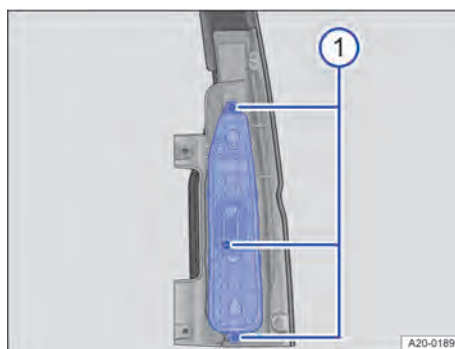

Fig. 178 On the tail lamp cluster: removing the bulb holder.
2. Undo securing screws with the screwdriver → Fig. 178 . Insert a suitable interchangeable blade if necessary.
3. Remove the bulb holder → Fig. 178.
1. Carefully insert the bulb holder into the tail lamp cluster → Fig. 178.
2. Screw the bulb holder onto the tail lamp cluster with the securing screws → Fig. 178 ①.